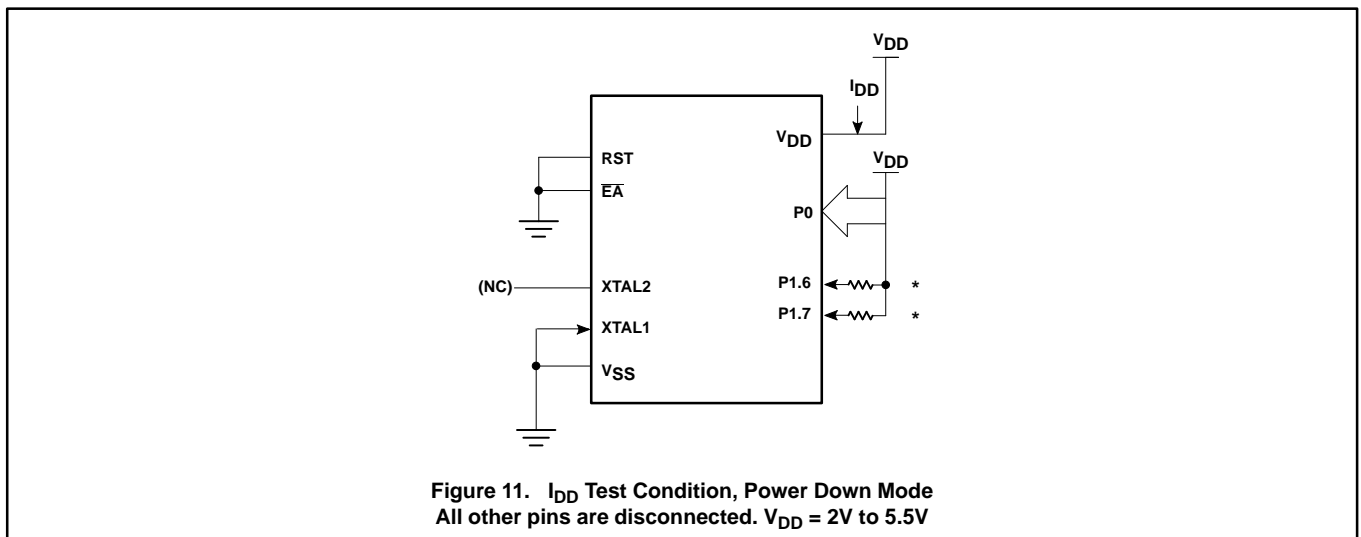

Figure 11. I_{DD} Test Condition, Power Down Mode
- The power-down current is measured with all output pins disconnected; XTAL2 not connected; Port 0 = P1.6 = P1.7 = V_{DD} ; $\overline{EA} = RST = V_{SS}$. See Figure 11.